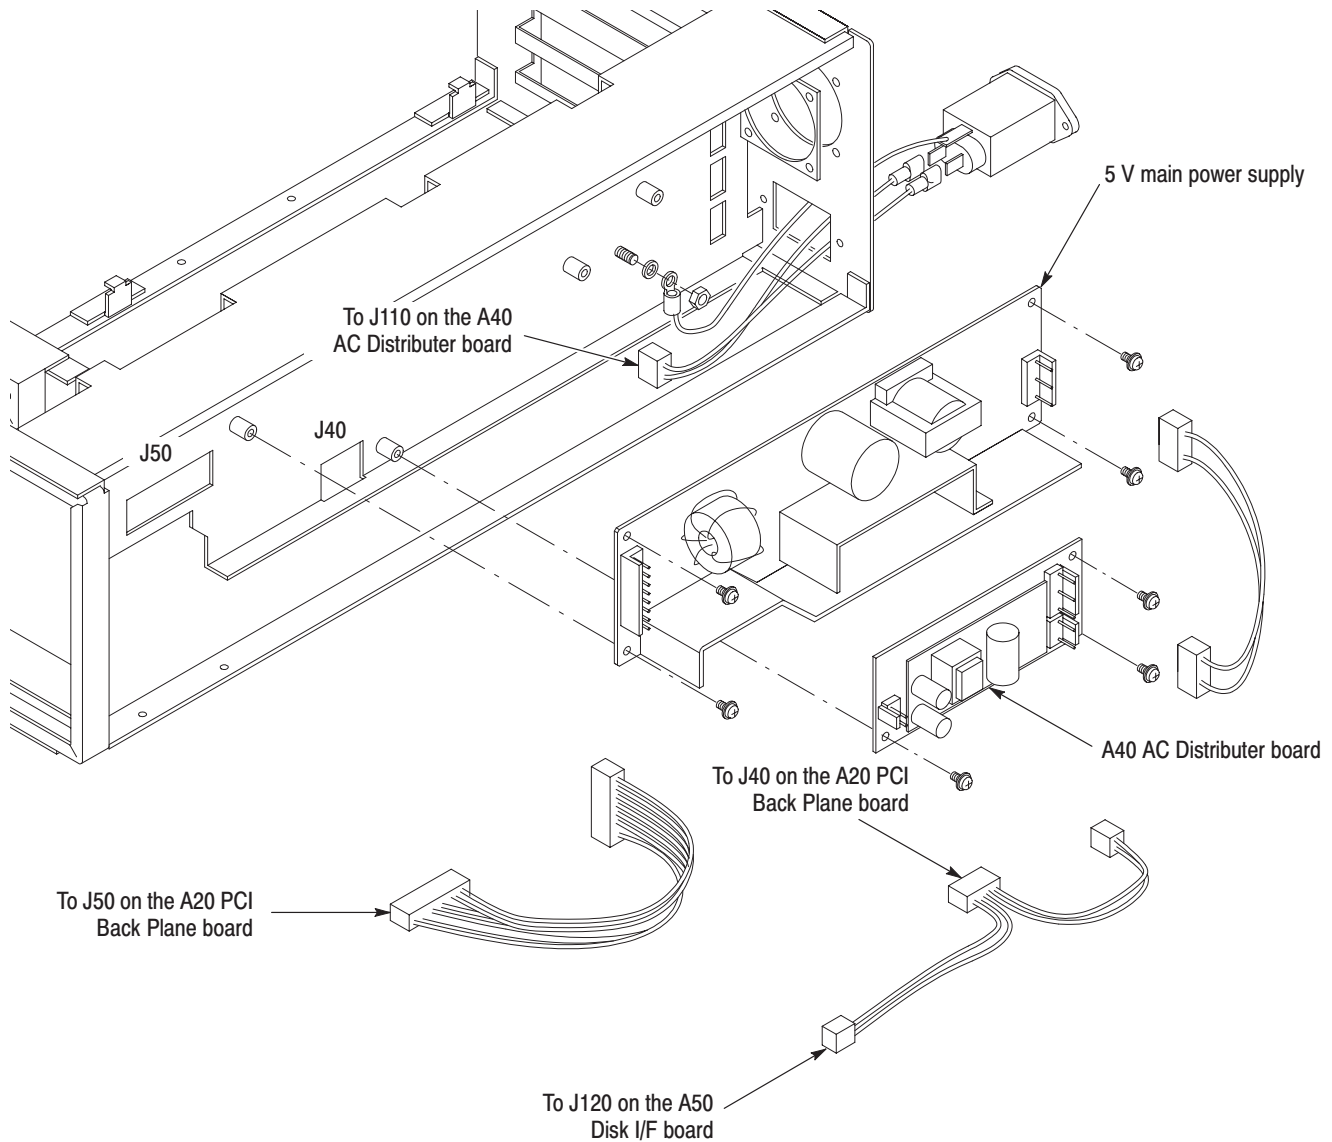

Figure 6-14: 5 V main power supply and A40 AC Distributer board removal
3. *Remove the 5 V main power supply:* See Figure 6-14.